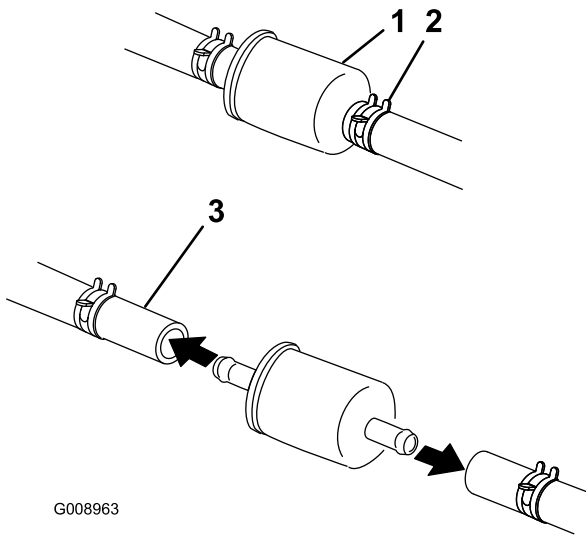

Figure 59
4. Close the fuel-shutoff valve under the seat (Figure 59).
5. Squeeze the ends of the hose clamps together and slide them away from the filter (Figure 59).
7. Install a new filter and move the hose clamps close to the filter (Figure 59).